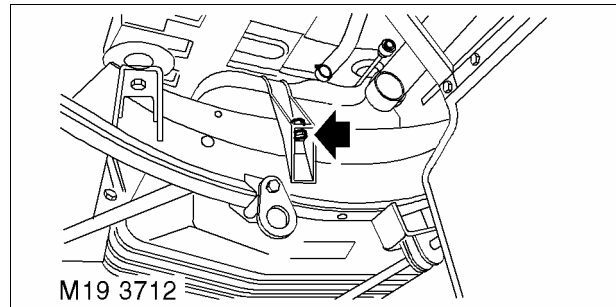

Fig. 4
- 8 Remove nut and bolt securing right-hand side fuel tank strap. See Fig. 4.